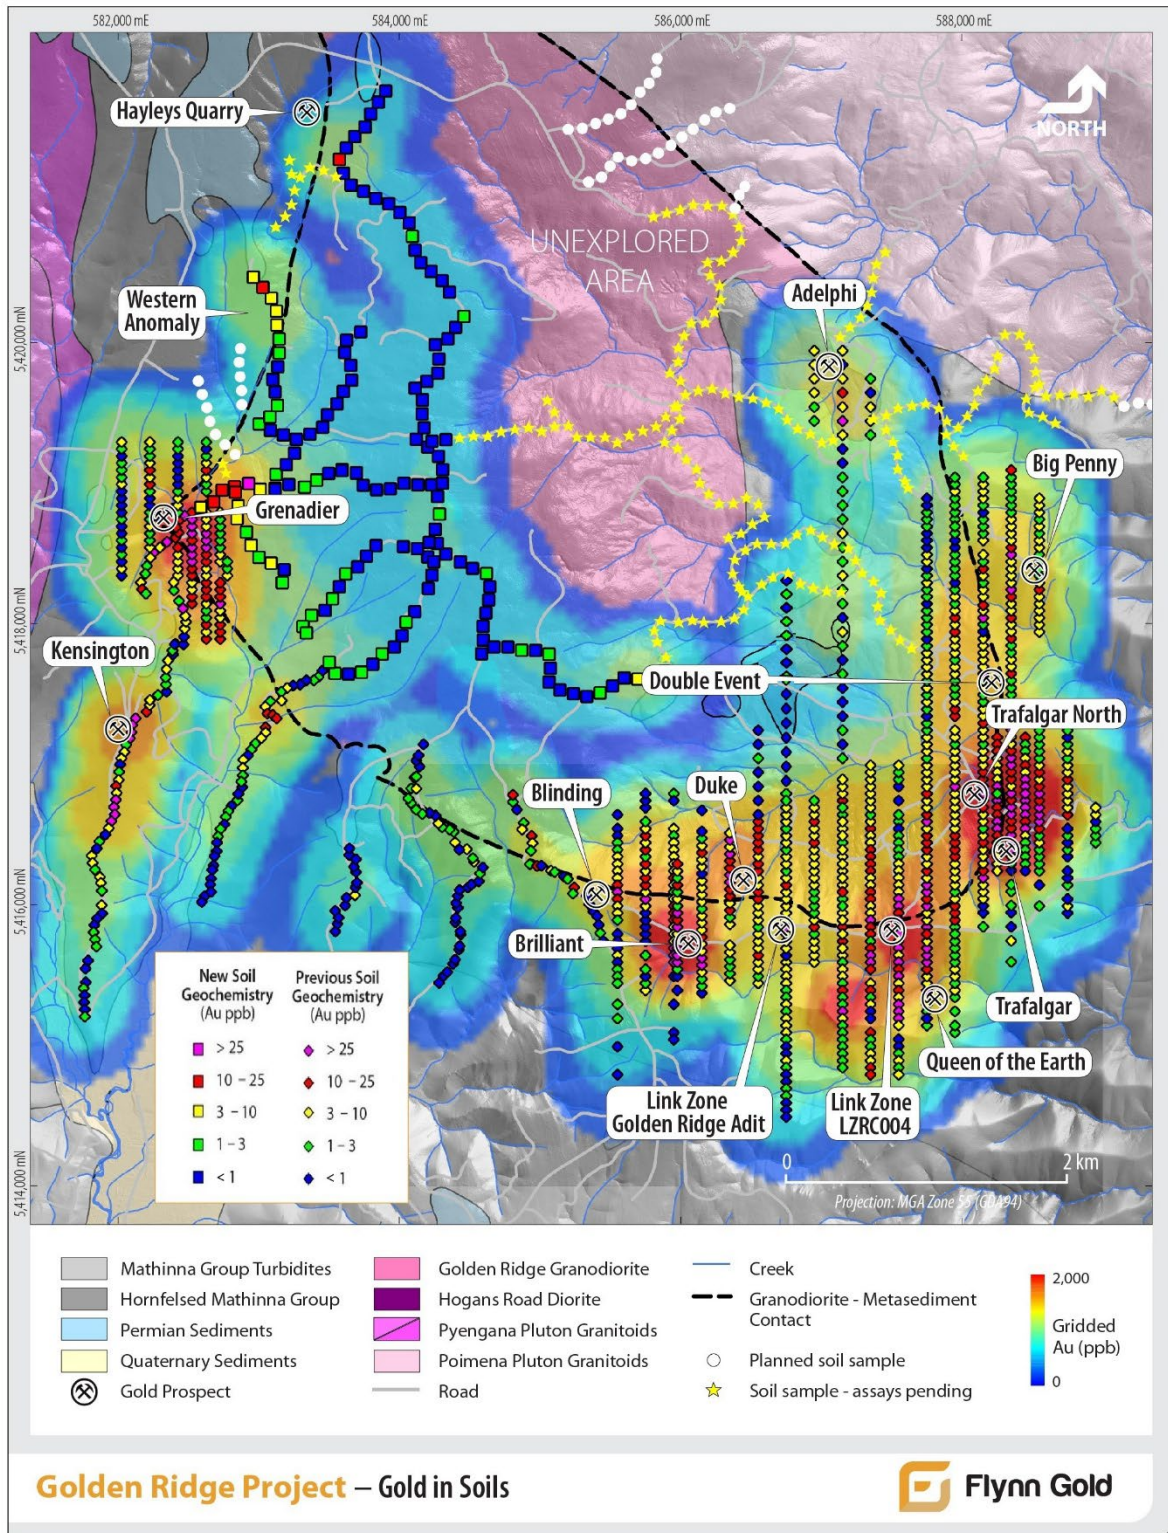

Figure 2 – Golden Ridge: Gold-in-Soils (Ultrafine+) Heatmap.
The current Ridge and Road soil sampling campaign aims to provide geochemical coverage across the under-explored interior of the Golden Ridge Granodiorite, as well as untested sections of its contact zones. The latest gold-in-soil assay results are shown in Table 1 and Figure 2. Highlights from the most recent results include:
The Golden Ridge Adit ('the Adit') is located in the Link Zone prospect area situated between the Brilliant and Trafalgar prospects at Golden Ridge (see Figure 2). Multiple quartz-sulphide veins were intercepted in the adit and have been sampled and mapped by Flynn, returning grades of up to 64.4g/t Au⁵.
Refer to Figure 2 for location of prospect within Golden Ridge.
The Link Zone prospect is located along the prospective granodiorite-metasediment contact zone 900m south-west of Trafalgar and 800m east of the Golden Ridge Adit (see Figure 2). In 2022 Flynn drilled four Reverse Circulation (RC) holes with results including a broad interval of gold mineralisation of 33m @ 0.5g/t Au⁶.